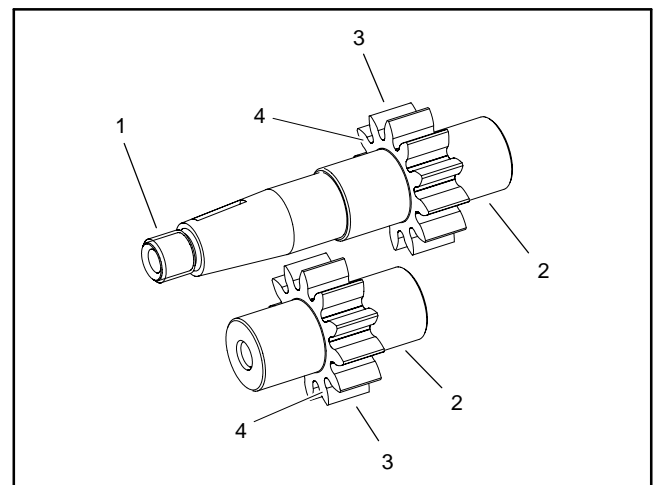

Figure 84
3. Inspect drive gears and idler gears for the following (Fig. 84):